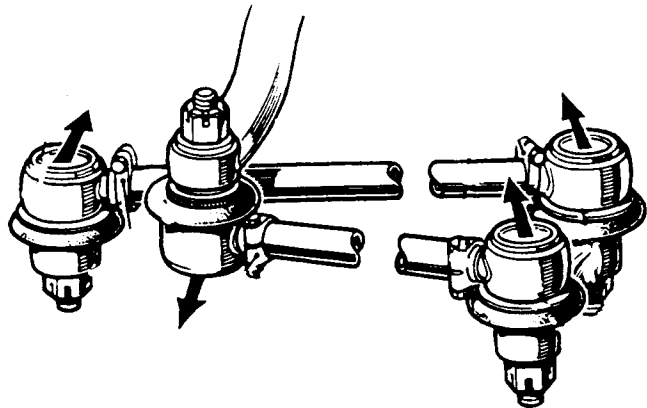

Fig L4.24
- (2) Refer to Fig L4.24. If the clamps were previously slackened, lightly tap the ball joint cups with a mallet in the direction indicated to the maximum of their travel, to ensure full unrestricted movement of the drag link.
(3) Tighten the ball joint clamps to 11 to 15 N.m.
(5) Lower the vehicle front end to the ground.